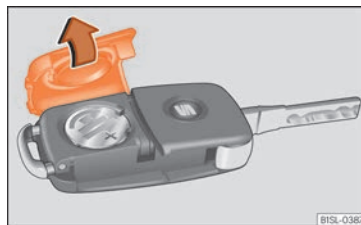

Fig. 65 Vehicle key: opening the battery compartment.
- Remove the lid on the back of the vehicle key »»» Fig. 65 in the direction of the arrow »»» ❶.
- Place the lid as shown »»» Fig. 65 and press it into the housing of the vehicle key in the opposite direction to the arrow until it engages.
❶ CAUTION